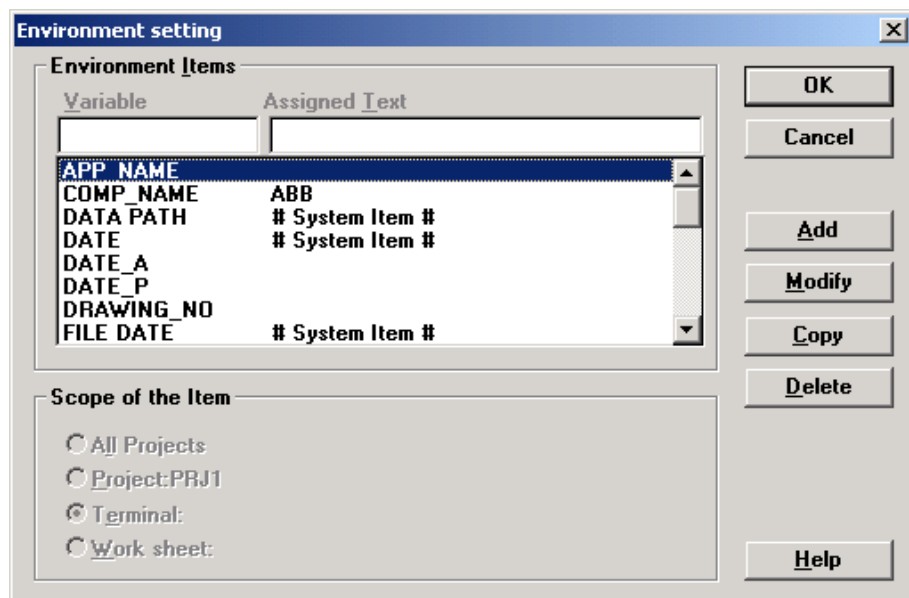

Fig. 50 The Environment Setting dialog box.
- 1 Select the button <Config...> and the Environment Setting dialog box in Fig. 50 appears.